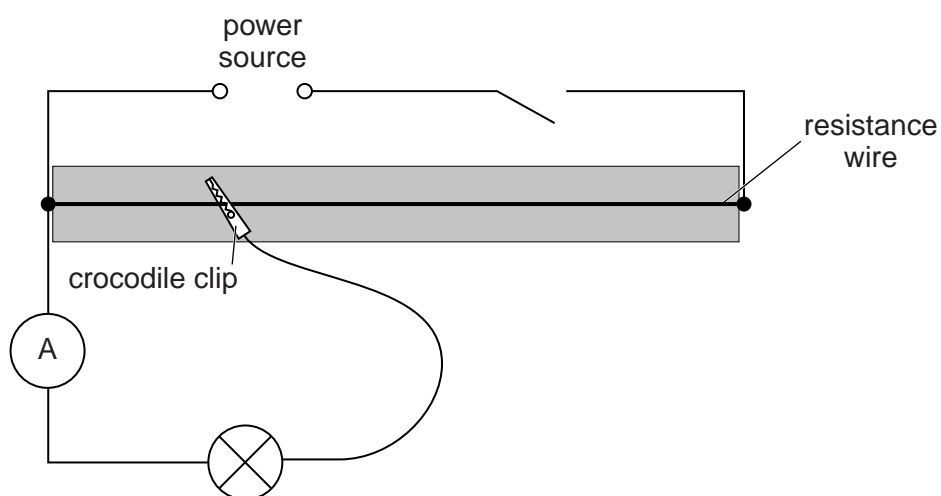

Fig. 3.1
2. The circuit is to be set up for candidates as shown in Fig. 3.1 with the crocodile clip attached approximately $\frac{1}{4}$ of the way along the wire.
Disconnect the voltmeter. Ensure that the circuit is connected as shown in Fig. 3.1. Check the lamp and power source.